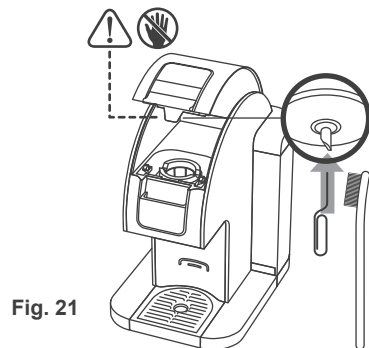

Fig. 21
1. Double check the top Needle underneath the Cover (Fig. 21) to see if it is clear of coffee grind.
2. If the top Needle is clogged, then use a paper clip or tooth brush to clean the Needle. (Fig. 21) DO NOT insert the paper clip to deep inside the needle.
CAUTION: Top Needle is very sharp. To avoid risk of injury, do not directly touch this Needle with your finger. (Fig. 21)